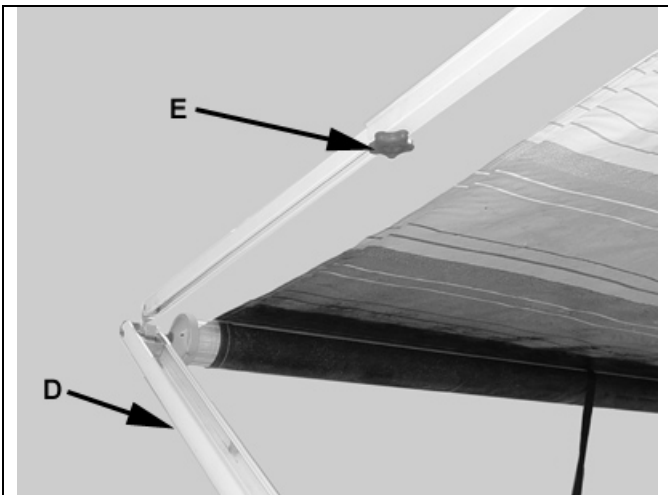

Figure 10-6 – Tighten Rafter Arms
- Slide the rafter arms to the end of the main arms (D) until they snap into place. Tighten adjustment knobs (E) on each rafter arm. See figure 10-6.